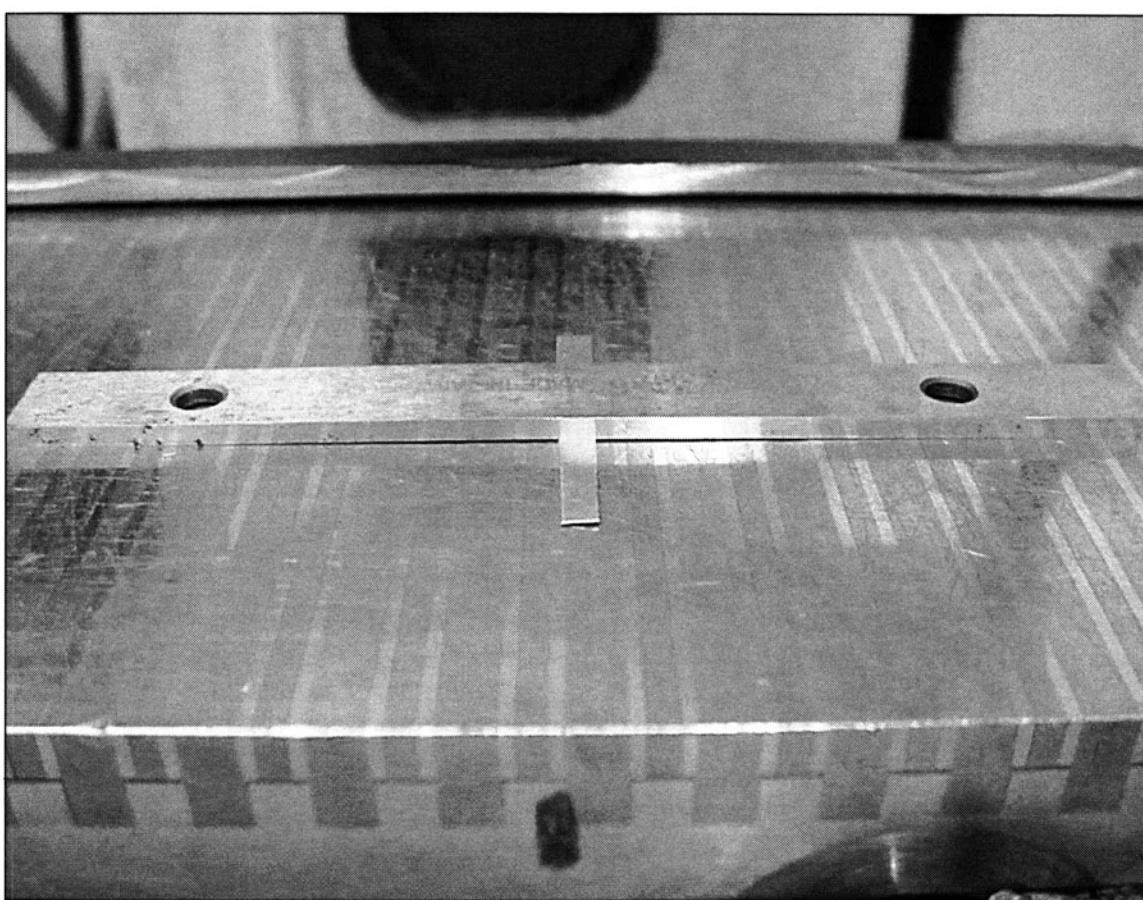

FIGURE 11-1 A warped part is shimmed so that it can't suck down on the magnet. The warp can then be ground out of the part.
3. *Use shims to prop up plates that need to be clamped directly to a table. (See Fig. 11-1)*